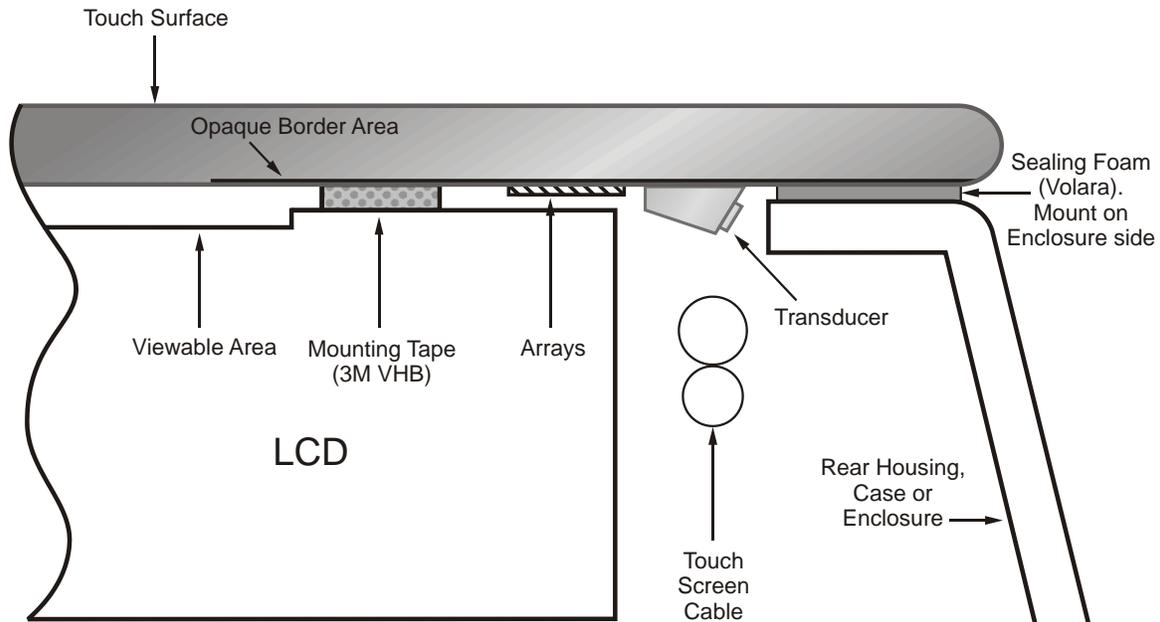
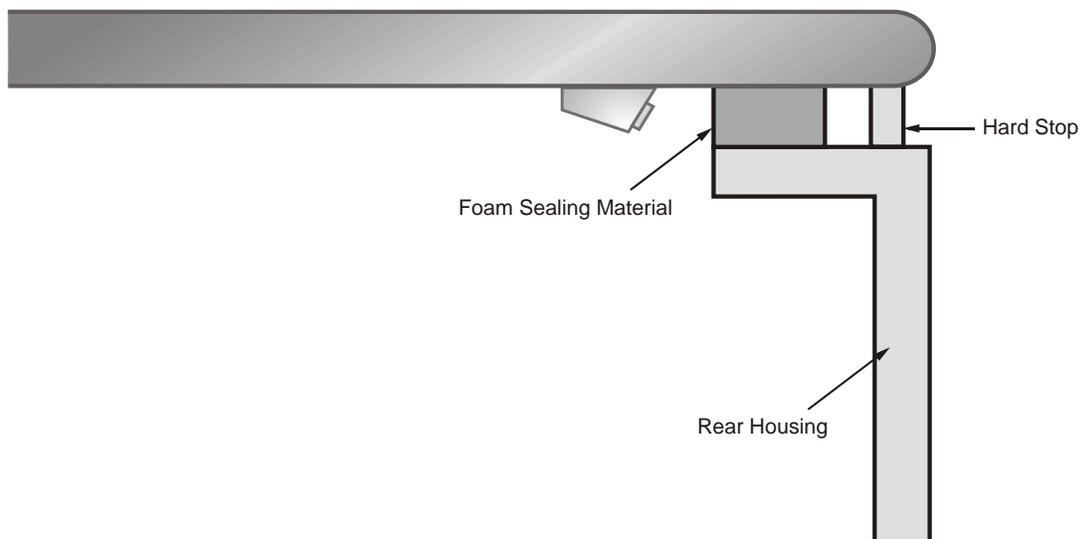

Figure 2-2. Reference Integration Design (not to scale)
Figure 2-4. Integration with a hard stop
Several options exist for mounting and sealing the screen. The cross-section of a reference integration design for an IntelliTouch Zero Bezel touchscreen is illustrated in Figure 2-2. It is the simplest method of integrating a standard off-the-shelf or custom IntelliTouch Zero Bezel screen. Important elements of the integration are described in the sections that follow.
The following design considerations are based on the integrated design in Figure 2-2.
In the integrated design shown in Figure 2-2, the IntelliTouch Zero Bezel screen is mounted directly onto the metal of the LCD. This design minimizes the space between the touch screen and the LCD, thus minimizing parallax. Please note that the tape applied by Elo is intended for this mounting solution. VHB adheres well to metal, so a touchscreen can be securely mounted onto an LCD.
The integrated design (Figure 2-2) has an enclosure beneath the surface of the touch screen so that the edge of the touchscreen is exposed. This is the simplest solution and makes the touch system easy to seal and clean.
A seal is recommended around the edge of the touchscreen to keep dust and spills from affecting array functionality. In the integrated design, a seal is created with low density foam (Figure 2-2). The foam should be adhesive on one side only; the foam must be adhered to the rear housing or sub-bezel, not to the touchscreen. Elo Touch Solutions recommends Volara® 2A, 2E, 4A, and 4E manufactured by Voltek®. A hard stop is advised to control the maximum compression of the seal (Figure 2-4). The screen can be sealed to IPX-1 rating with this foam.
- Sealing material dimensions recommended are 2-4 mm wide and 2-3 mm thick. For a foam seal, the foam should compress to a level that is between twenty and fifty percent of its initial height. Uniform compression around the touchscreen is ideal. A hard stop should be molded into your housing to control compression. See the example below in Figure 2-4.